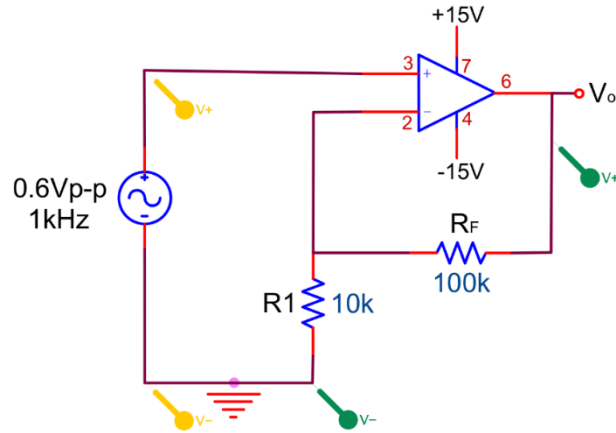

Figure 9.10
6. Construct the circuit in Figure 9.10. Record v_i and v_o ; compare it to the value calculated in the pre-lab. What is the phase difference between v_i and v_o ?
2. Simulate Figure 9.10